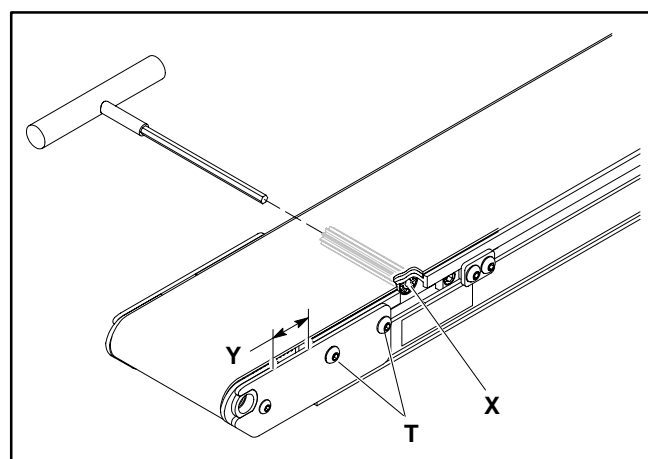

Figure 8
8. Tighten connector strip screws (V) to 2 Nm. Tighten bracket screws (W) to 9 Nm.
9. Insert a 5 mm hex key wrench into either end of the pinion gear (X of Figure 8). Rotate the pinion gear to extend the tensioning end gap (Y) to 30 mm.